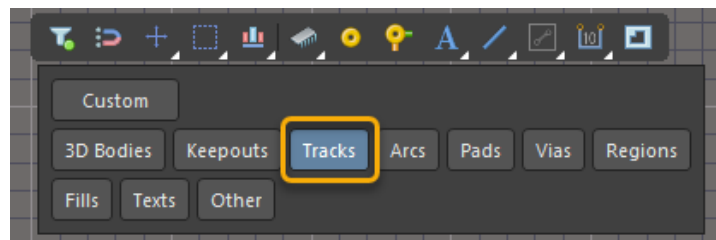

Figure 44. Filter Options
71. Change the selection filter to **Tracks** only, see Figure 44.